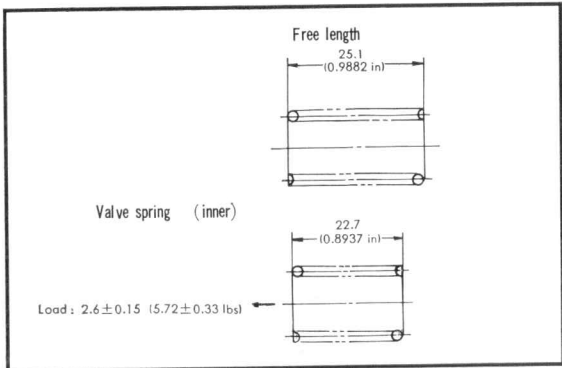

Figure 3-31. Inner valve spring
(7) Inner valve spring (Fig. 3-31)